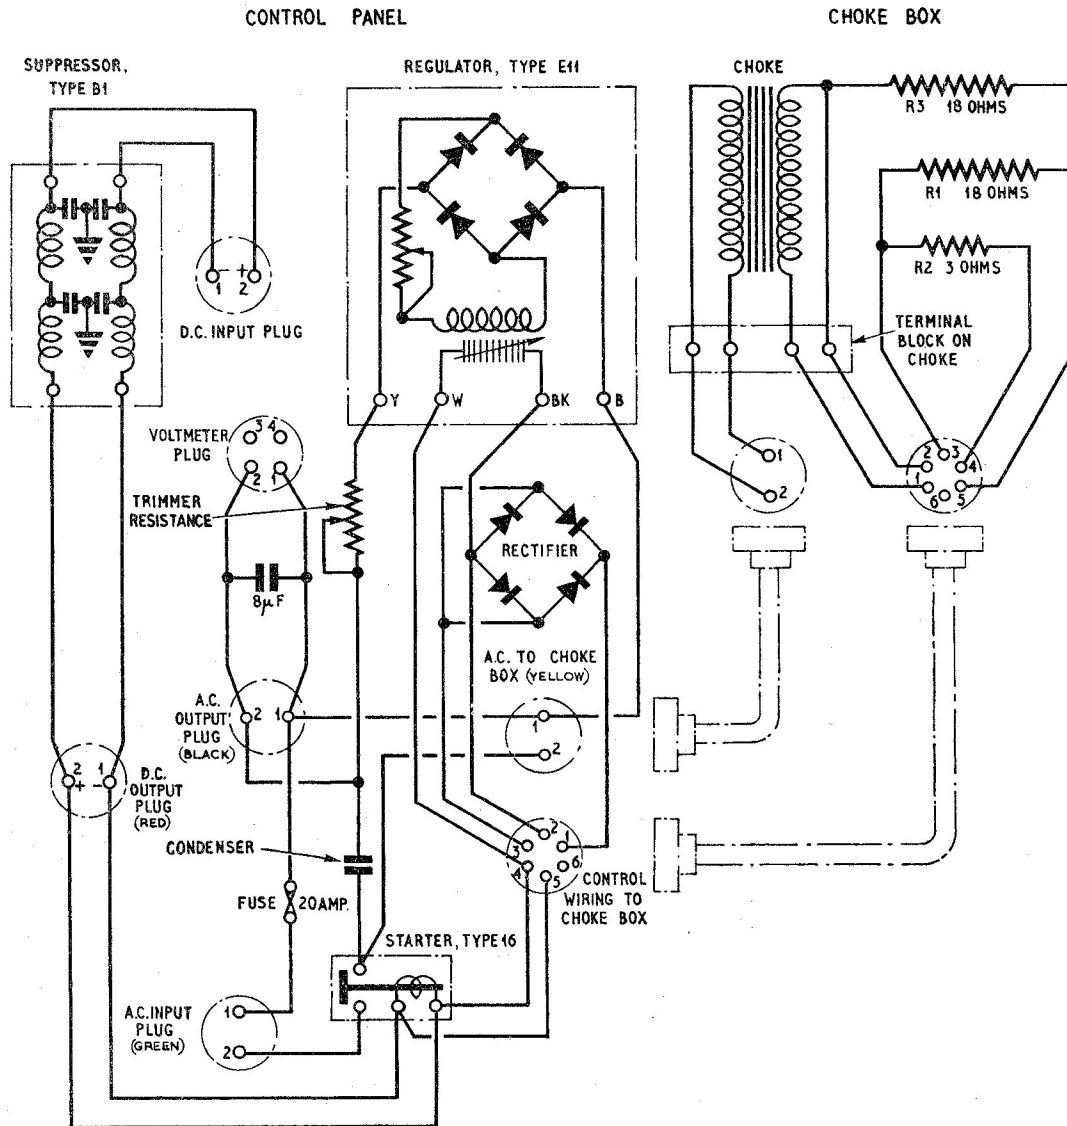

Fig. 1. Circuit diagram
2. The control panel, Type 6B, used with special radio equipment, is very similar to the earlier Type 6, but incorporates an additional $8\ \mu\text{F}$ capacitor, connected as shown in the circuit diagram in fig. 1. The control panel is always used with the choke